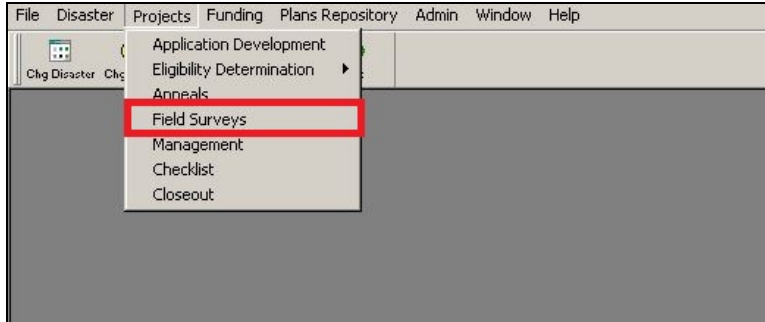

Figure 11-1: Mitigation > Projects > Field Surveys
1. On the NEMIS menu bar, click on the MITIGATION icon. On the Mitigation menu, click Projects > Field Surveys (Figure 11-1).